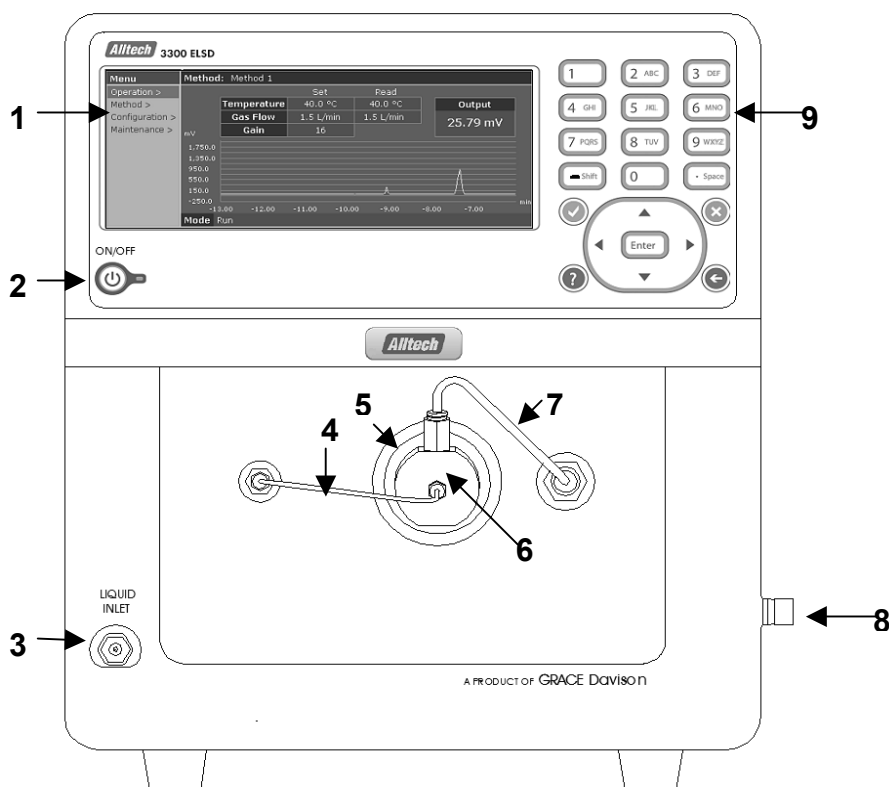

Figure 2.1: Front Panel of 3300 ELSD; Door Removed
2.3.1 FRONT PANEL (FIGURE 2.1)